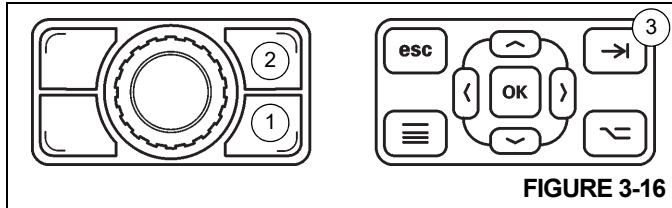

FIGURE 3-16
- Press the Screen Toggle Button (1, Figure 3-16) at the Jog Dial to select the RDM screen control.
- Press the Tab Button (3, Figure 3-16) on the RDM Navigation Control Pad.